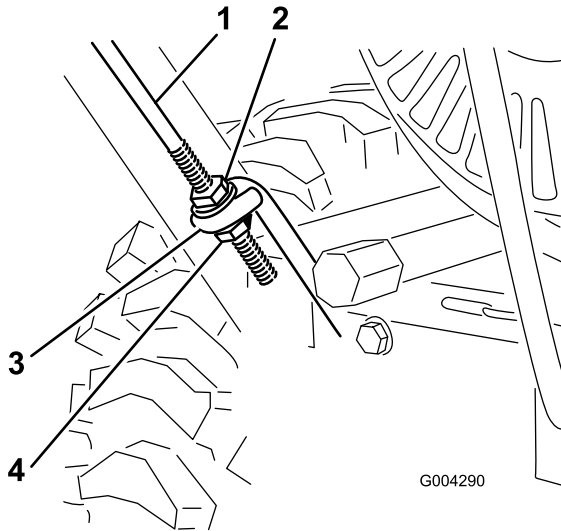

Figure 4
3. Thread a flange nut (not the flange locknut) with the flange down onto the traction rod attached to the left side of the handle (Figure 4).
4. Position the left side of the handle against the side of the snowthrower and insert the end of the traction rod through the lower traction rod loop (Figure 4).
1. Thread the flange locknut (flange side up) onto the bottom of the traction control rod, below the loop in the lower traction rod (Figure 4).